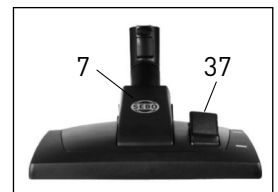

Figure 18
### Kombi Nozzle - Figure 18
The Kombi Nozzle (7) is adjustable for carpet or hard floors. To set for hard floors, push the back end of the toggle button (37) downward until it clicks into place. The brush will lower to gently sweep your floors. To set for carpet, push the front end of the toggle button (37) downward until it clicks into place. The brush will raise up allowing the head to move over the carpet. **The toggle button in Figure 18 is set in the position for carpet.** The brush should be cleaned regularly. Remove the Kombi nozzle from the telescopic tube to clean. Fibers and hair can be pulled out of the bristles manually, or vacuum the bristles with the telescopic tube. The brush strip is removable for cleaning and replacement.